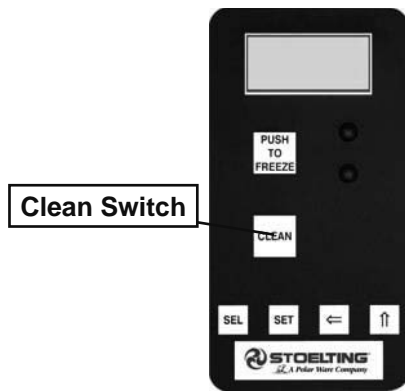

Figure 3-11 Clean Control
- D. Place the Main Power OFF/ON and Freezing Cylinder OFF/ON switches in the ON position then press the CLEAN button (Fig. 3-11).